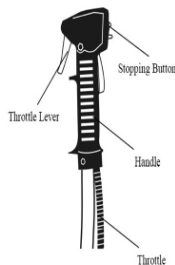

Fig.10
2. The throttle lever to be pressed on 1/4 position. (Fig.10)